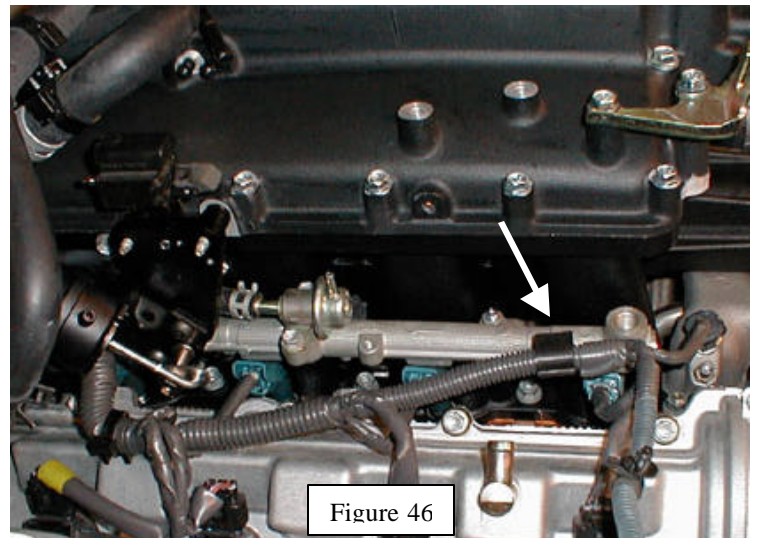

Figure 46
13. Secure the wire loom using the front OE bracket (Figure 46).